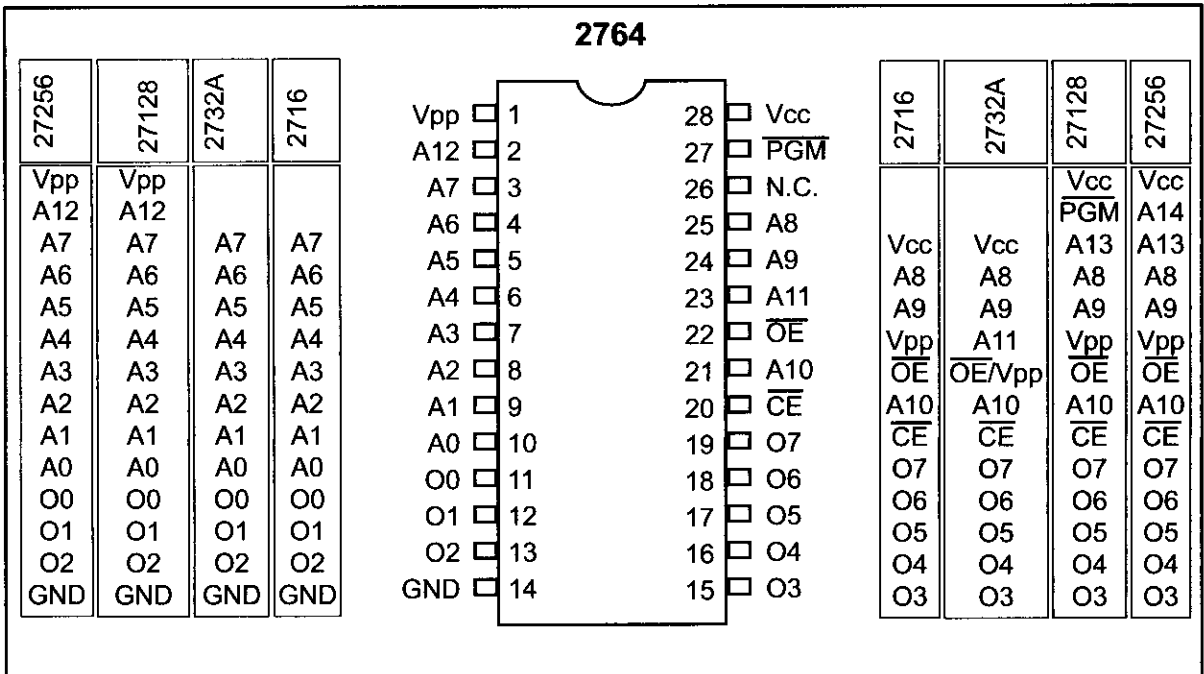

Figure 14-1. Pin Configurations for 27xx ROM Family
EPROM was invented to allow changes in the contents of PROM after it is burned. In EPROM, one can program the memory chip and erase it thousands of times. This is especially necessary during development of the prototype of a microprocessor-based project. A widely used EPROM is called UV-EPROM, where UV stands for ultraviolet. The only problem with UV-EPROM is that erasing its contents can take up to 20 minutes. All UV-EPROM chips have a window through which the programmer can shine ultraviolet (UV) radiation to erase its contents. For this reason, EPROM is also referred to as UV-erasable EPROM or simply UV-EPROM. Figure 14-1 shows the pins for a UV-EPROM chip.